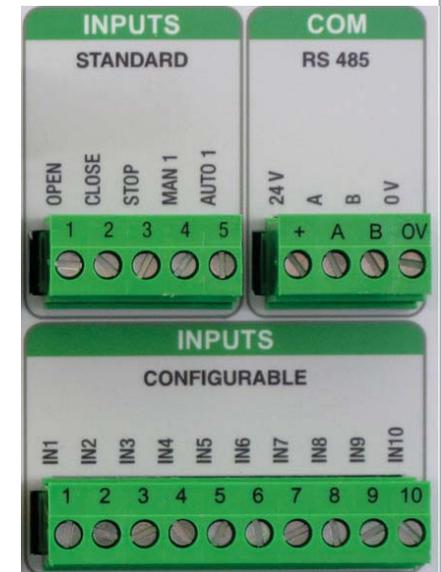

FIG 5C
A. Inputs. There are 3 parameters that can be set. Refer to **FIG 5C** (close up view of Input relays)